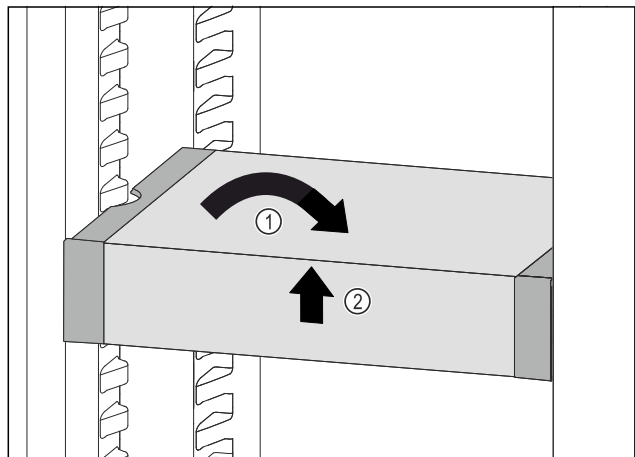

Fig. 198
- ▶ Set VarioSafe straight. Fig. 198 (1)
- ▶ Lift VarioSafe at the front. Fig. 198 (2)